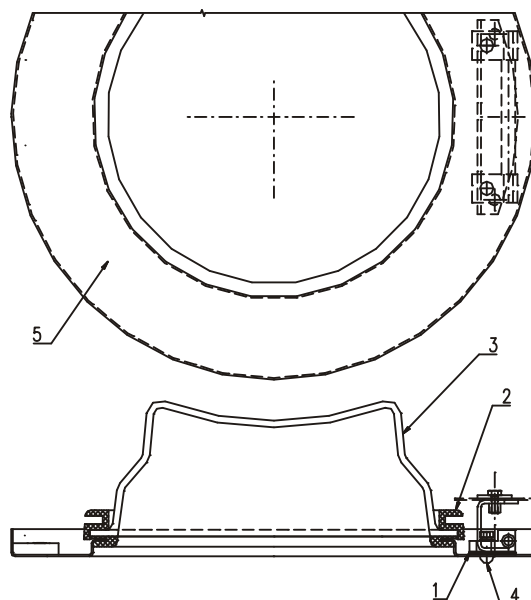

Fig.5.2.1.A Door fastening
1. Loosen two bolts (6) fastening the top door hinge (7), fig.5.2.1.B.
2. Take off the elimination washer (8).
3. Tighten the two bolts (6) fastening the top door hinge.